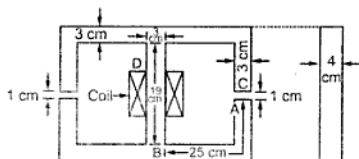

Fig. 3.72
►► **Example 3.13 :** The Fig. 3.72 shows a magnetic circuit with two similar branches and an exciting coil of 1500 turns on central limb. The flux density in the air gap is 1 Wb/m^2 and leakage coefficient 1.2. Determine exciting current through the coil. Assume relative permeability of the iron constant equal to 600.